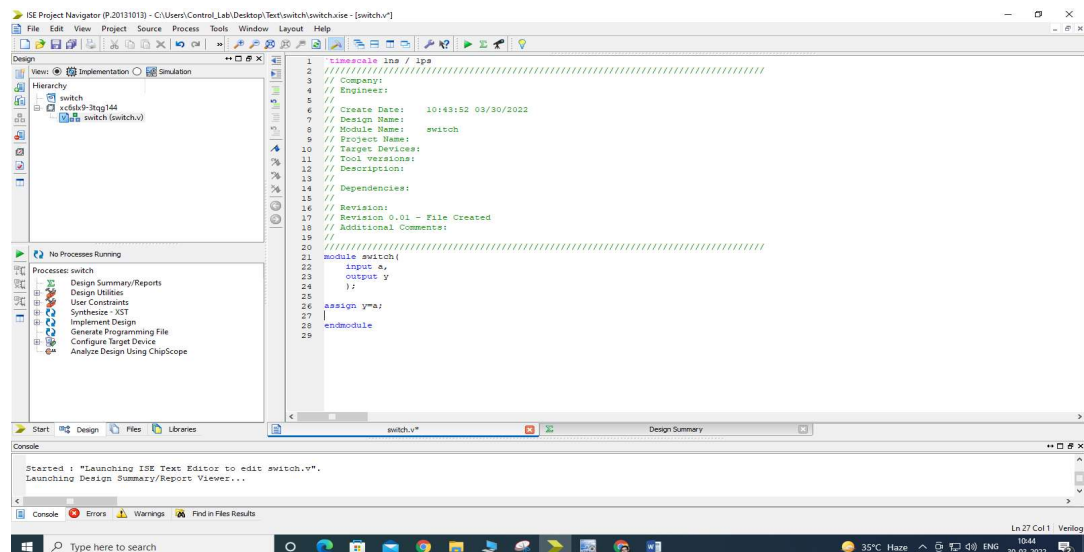

Fig 1.11: Source Tab with complete Verilog code
12. After entering the Verilog code , save the file. The source file containing the Verilog code displays in the Workspace, and the complete “switch” displays in the Source tab (Fig 1.11).